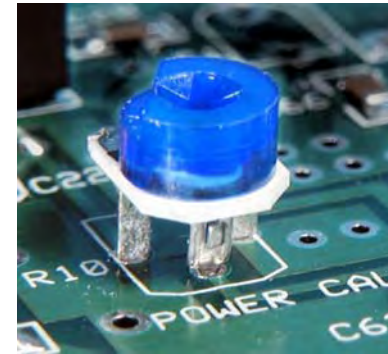

Figure 20. Installing PC Board Pots. Orient the center pin toward the beveled end of the silk-screened outline.
Install the 100 k-ohm (104) potentiometer R10 (Power Cal) in the upper left quadrant of the PCB. The center lead goes toward the beveled end of the silk screen outline (see Figure 20). The shoulders on the leads should touch the top of the PCB.